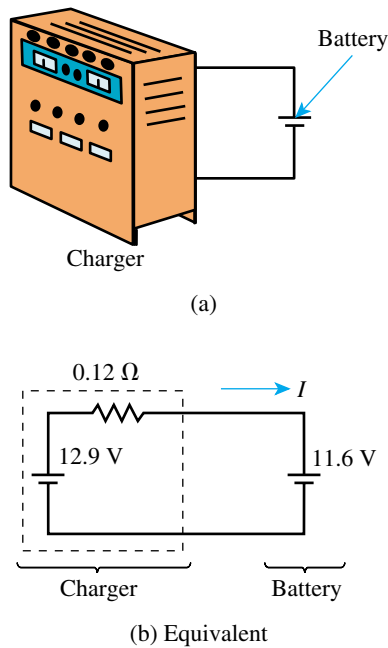

FIGURE 4-42
70. **EWB** A battery charger with a voltage of 12.9 V is used to charge a battery, Figure 4-42(a). The internal resistance of the charger is 0.12 Ω and the voltage of the partially run-down battery is 11.6 V. The equivalent circuit for the charger/battery combination is shown in (b). You reason that, since the two voltages are in opposition, net voltage for the circuit will be 12.9 V - 11.6 V = 1.3 V and, thus, the charging current I will be 1.3 V/0.12 Ω = 10.8 A. Set up the circuit of (b) and use Electronics Workbench to verify your conclusion.